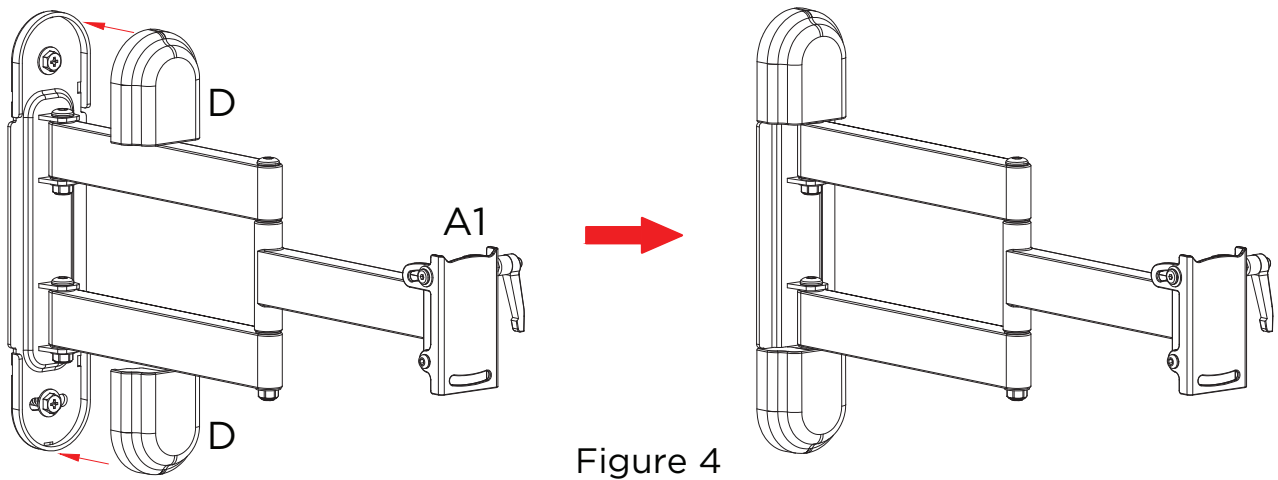

Figure 4
**Step 3:** Plastic Cover (D) inserts into wall plate (A1). (Figure 4)